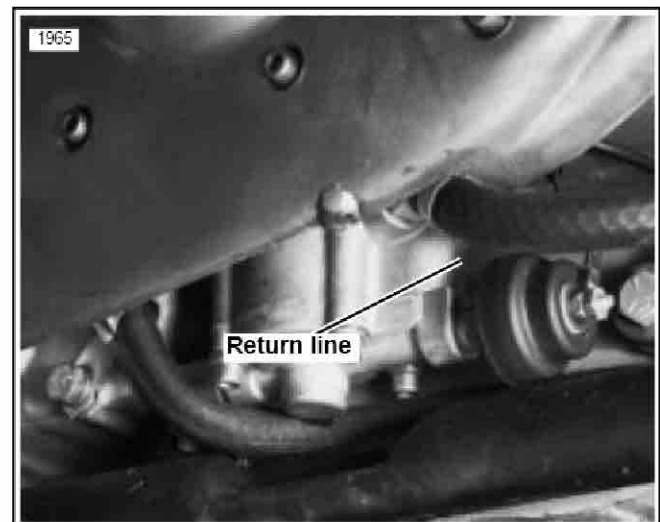

Figure 3. Oil Pump Hose Identification - 1982 to 1985
2. See Figures 3 and 4. Disconnect the oil return line at the oil pump and oil filter inlet. Use a pan to catch any oil that may spill.
2. See Figures 3 and 6. Disconnect the oil return line at the oil pump and oil filter inlet. Use a pan to catch any oil that may spill.